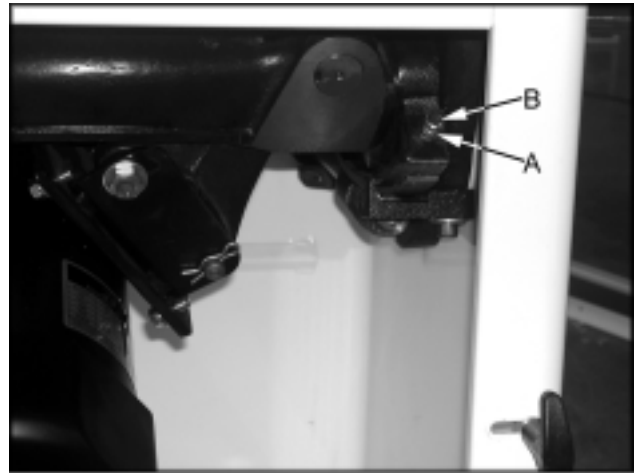

Fig. 16
5. If blade is not at 90 degrees, open the motor cover door, loosen lock nut (A, Fig. 16) and turn adjusting stop screw (B, Fig. 16) on the front trunnion in, or out. The adjusting stop screw should stop against the front trunnion bracket when the blade is 90° to the table.
6. Tighten the lock nut (A, Fig. 16).